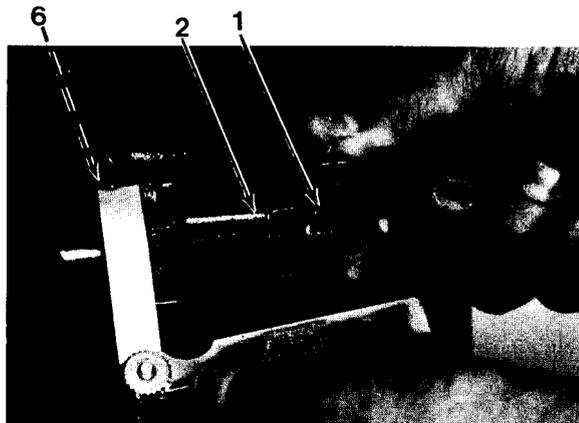

Figure 6-28
23. Install connecting rod cap (2) and two connecting rod capscrews (1, Figure 6-28).
24. Using a 12 mm socket and torque wrench, torque two connecting rod capscrews (1) alternately to 26 lb-ft (35 N•m), then to 51 lb-ft (69 N•m) and then to 73 lb-ft (99 N•m).
25. Using feeler gage, measure side clearance between connecting rod (6) and crankshaft. Side clearance limits are 0.004 to 0.012 in. (0.10 to 0.30 mm).